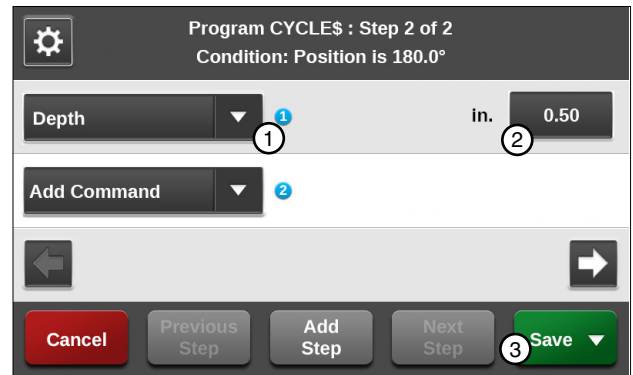

Figure 139-3 1. Depth Command 3. Save
8. Enter the command to be executed at this position. Refer to Figure 139-3.